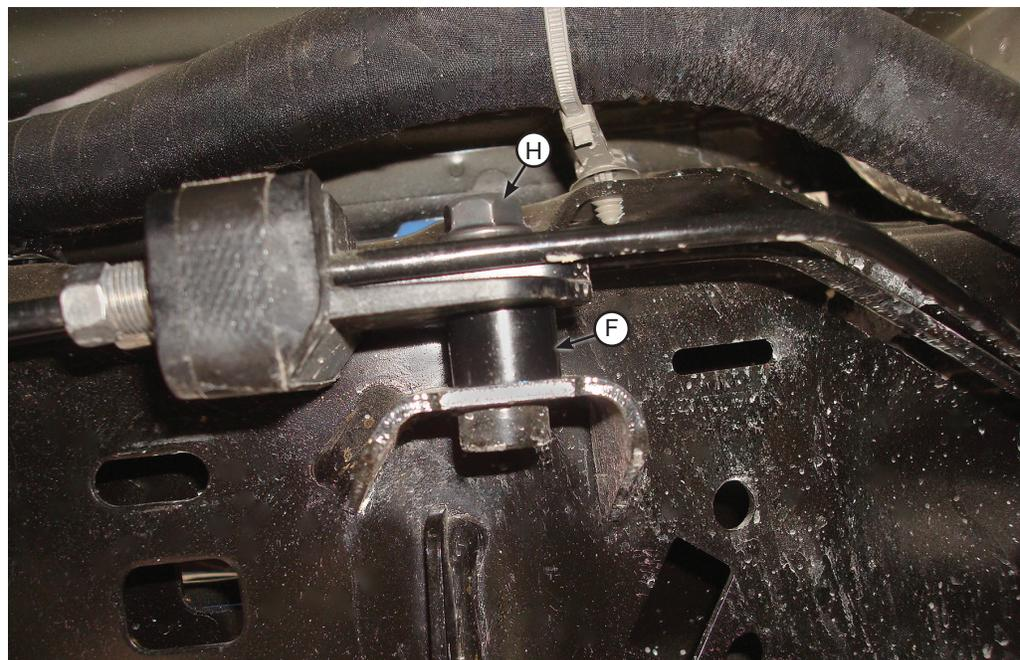

Fig. 6
- The brake line holder that is on the inside of the left side frame, above the axle, will need to be spaced up to make room for the upper brace (Fig. 6). Do this by removing the stock bolt (discard), then insert the spacer (F) between the holder and bracket; finally attach the line holder back onto the bracket using the M8-1.25 x 35 hex flange bolt (H). Tighten securely.